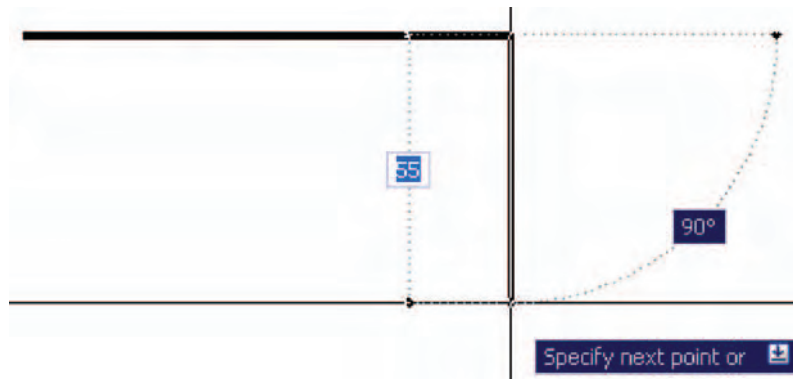

Fig. 3.30 Dynamic Input – first example – Polyline – the vertical height
6. Drag the cursor down until the vertical distance shows and *left-click* (Fig. 3.30).